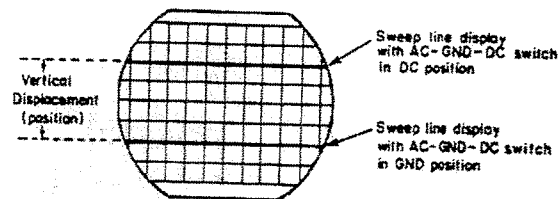
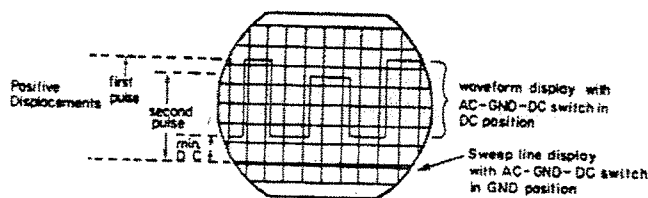

Fig. 4 DC voltage measurement
Fig. 5 DC level of waveform measurement
5. Move the AC-GND-DC Switch to the DC position and note the sweep line displacement for a DC signal (see Fig. 4) or total signal height to the level where measurement is desired. (see Fig. 5) A vertical displacement of at least 3 divisions is suggested for optimum accuracy of measurement. The reference level may be re-checked by returning the AC-GND-DC switch to the GND position.
6. Calculate the displayed voltage by multiplying the number of divisions of vertical displacement times the setting of the VOLTS/DIV switch times the probe attenuation factor. For example for Fig. 4 if the VOLTS/DIV switch were set to 0.5V/DIV and the X10 probe used, the displayed voltage would be 5 DIV X 0.5V/DIV X 10 (probe factor) = 25 volts.